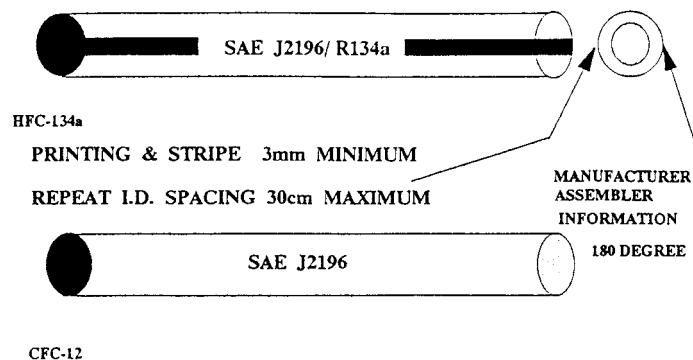

FIGURE 1—SERVICE HOSE
4.2.4.4 See Figure 1 for stripe and marking detail.